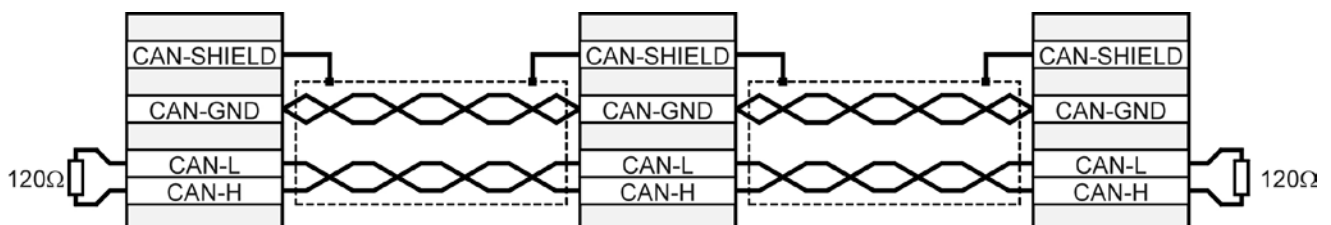

Figure 25: CAN bus cabling example
- ❖ The individual nodes of the network are always connected in line so that the CAN cable is looped through from controller to controller (see *Figure 25*).